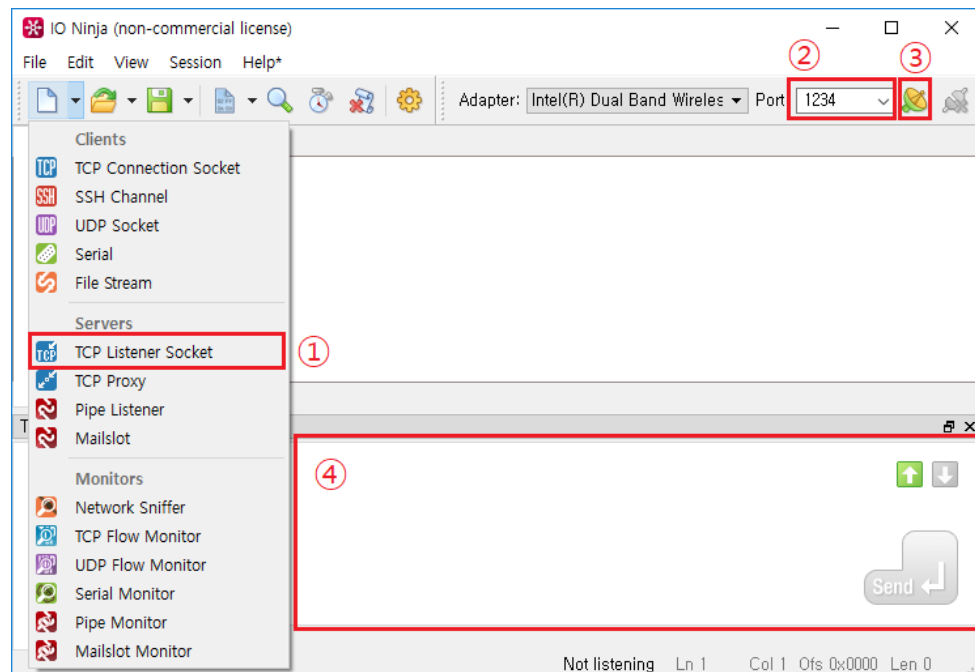

Figure 28: IO Ninja – TCP Server Socket Setting
- a. Select **TCP Listener Socket** (#1, Figure 28).
- b. Enter the port number to be used (#2, Figure 28).
- c. Click  to start to Listen (#3, Figure 28).
- b. Send data (#4, Figure 28).